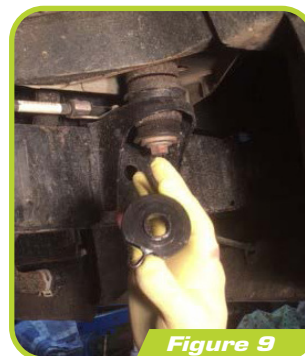

Figure 9
3. Install Black Spacer with locating hook to chassis rail for front hole (see Figure 9,10).